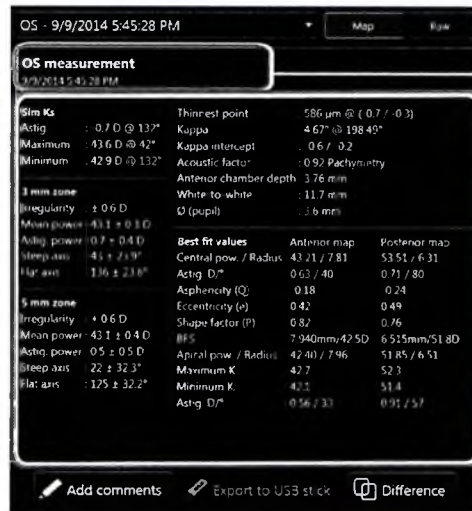

Fig. 77: Quad map values
- Date and time of the measurement (Fig. 77/1)
- simulated K-readings, 3 and 5 mm zone statistics, best fit values, thinnest point, kappa angle (kappa), kappa intercept, acoustic factor, anterior chamber depth (Ep), white-to-white, and Ø (pupil) (Fig. 77/2).